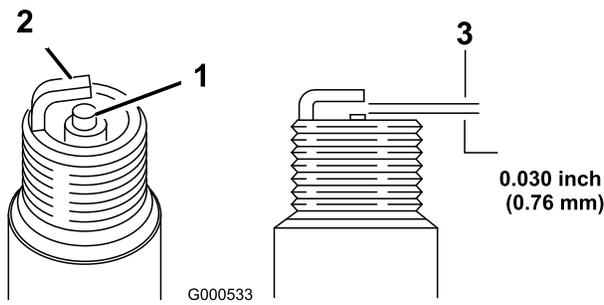

Figure 18
5. Set the gap on the plug to 0.76 mm (0.03 inch) as shown in Figure 18.